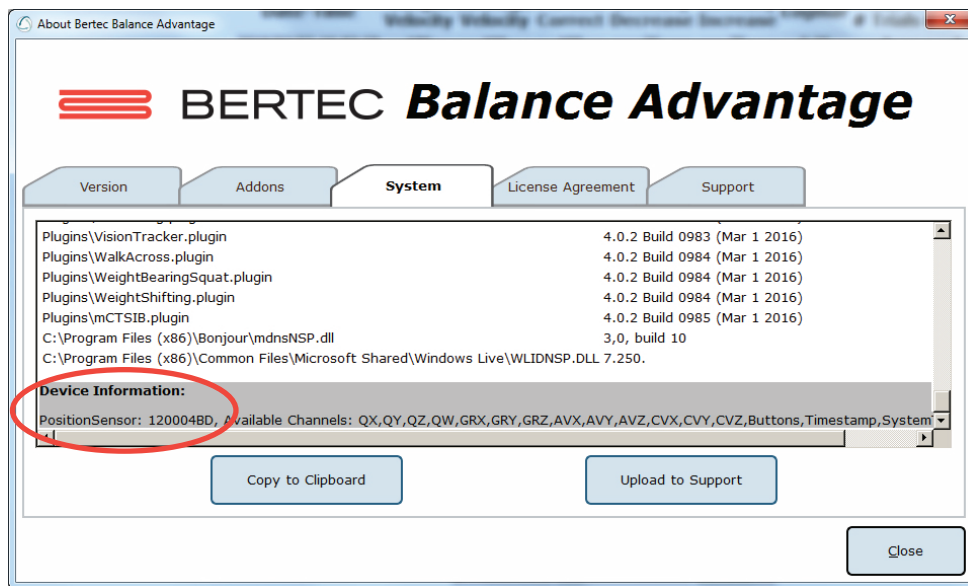

Figure 24. Checking the Head Tracker Connection
- d. Click on the "System" tab above and scroll all the way down. Check Device. Information to verify that the Head Tracker is listed (Figure 24).